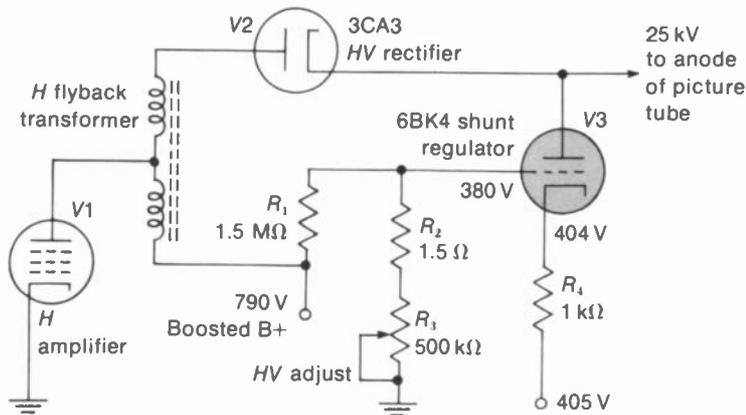

FIGURE 12-27 THE 6BK4 HIGH-VOLTAGE SHUNT REGULATOR CIRCUIT.
**The 6BK4 shunt regulator.** See Fig. 12-27. This circuit is used for regulating the high voltage supply in most color receivers with vacuum tubes. The shunt current through the 6BK4 regulator V3 and the load current, which is the beam current in the picture tube, together remain constant as a total current. With constant load current in the HV rectifier, its output of 25 kV remains constant.
The regulation of the 6BK4 results from varying its bias. In Fig. 12-27, the grid-cathode voltage is  $380 - 404 = -24$  V. Note that the 380
The high-voltage adjustment  $R_3$  in Fig. 12-27 is set as follows:
With this adjustment, the regulator should be drawing approximately 1-mA cathode current. Then the  $IR$  drop would be 1 V across the 1-k $\Omega$  cathode resistance  $R_4$  in Fig. 12-27.